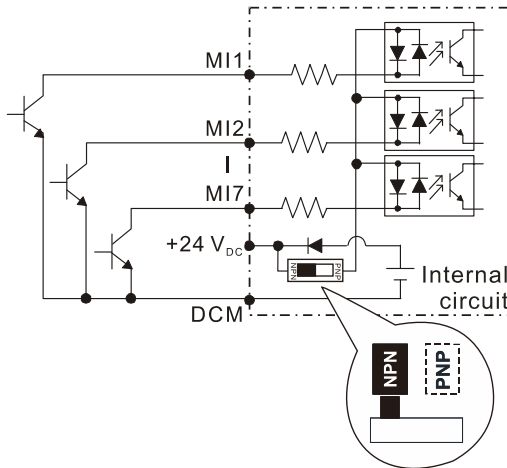
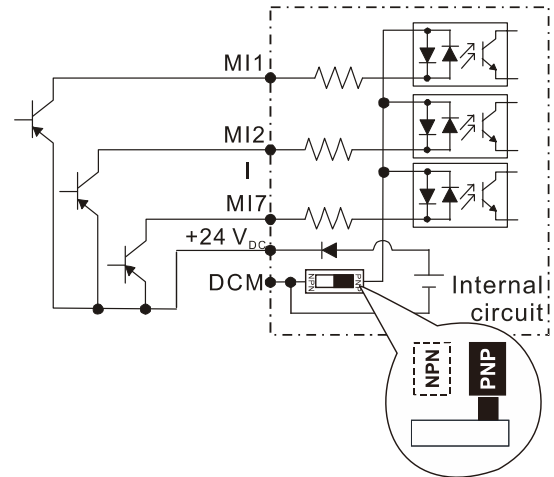

Figure 6-2
Figure 6-3
- ☑ When the photo coupler uses the internal power supply, the switch connection for Sink and Source modes shows as Figure 6-2 and Figure 6-3: MI-DCM: Sink mode; MI-+24 V_{DC}: Source mode.